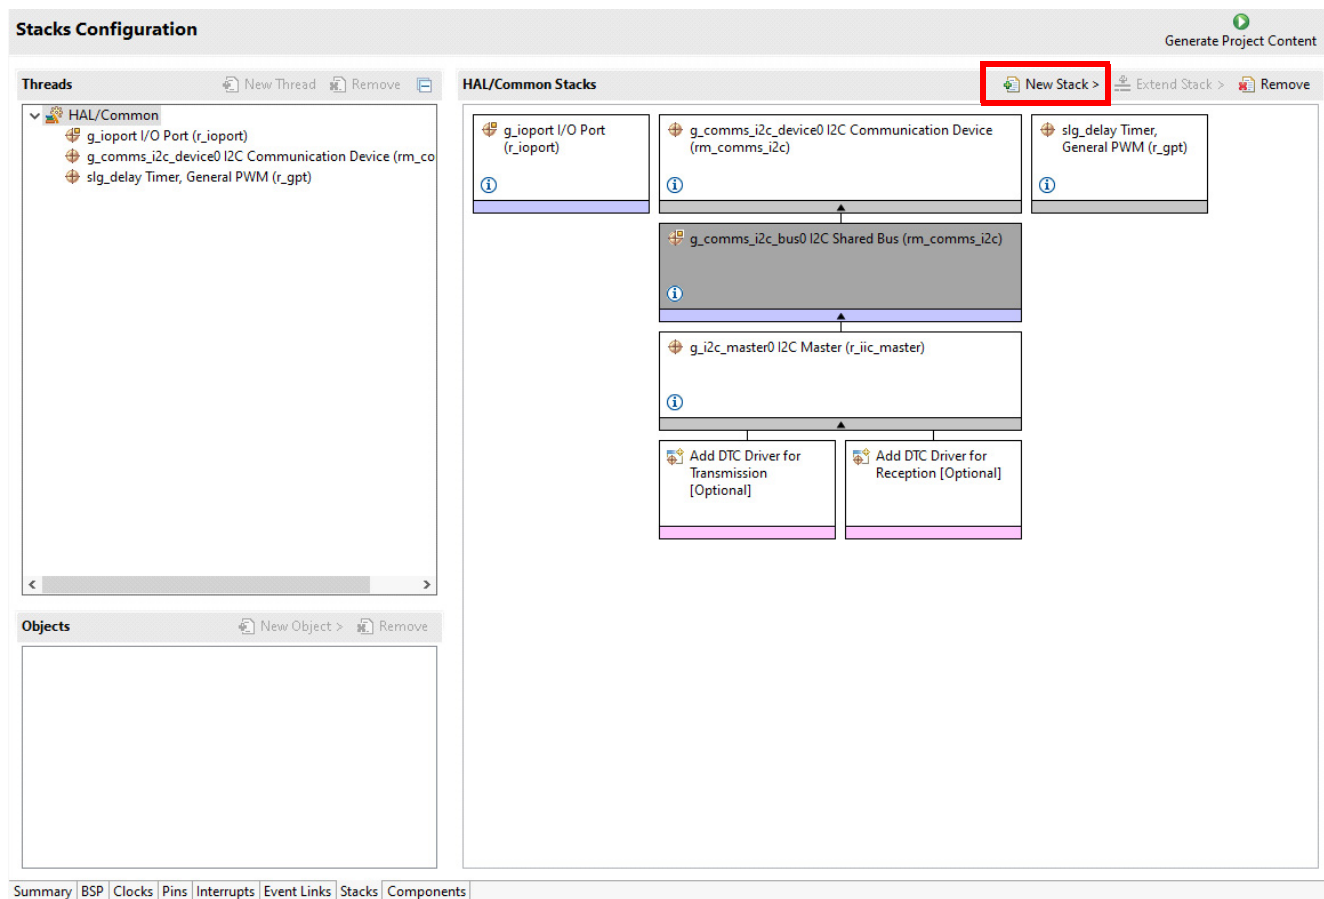

Figure 2. Stacks Configuration Window
2. Add the following stack element by clicking the *New Stack* button and editing the configuration values for desired operation (see Figure 2).